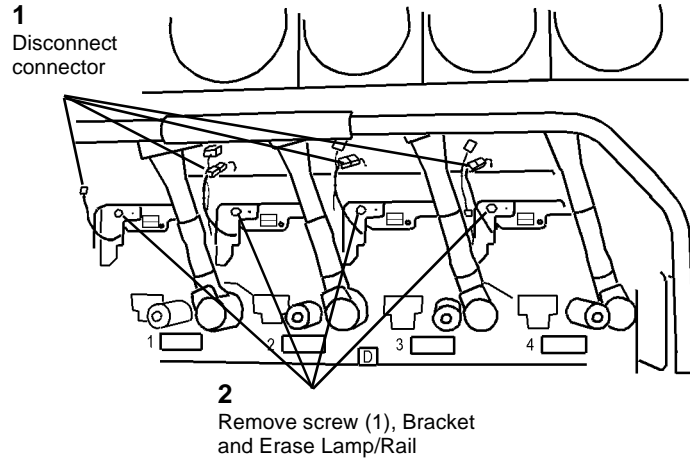

Figure 1 Removing the Erase Lamp/Rail
3. Remove the Bracket and Erase Lamp/Rail (Figure 1).